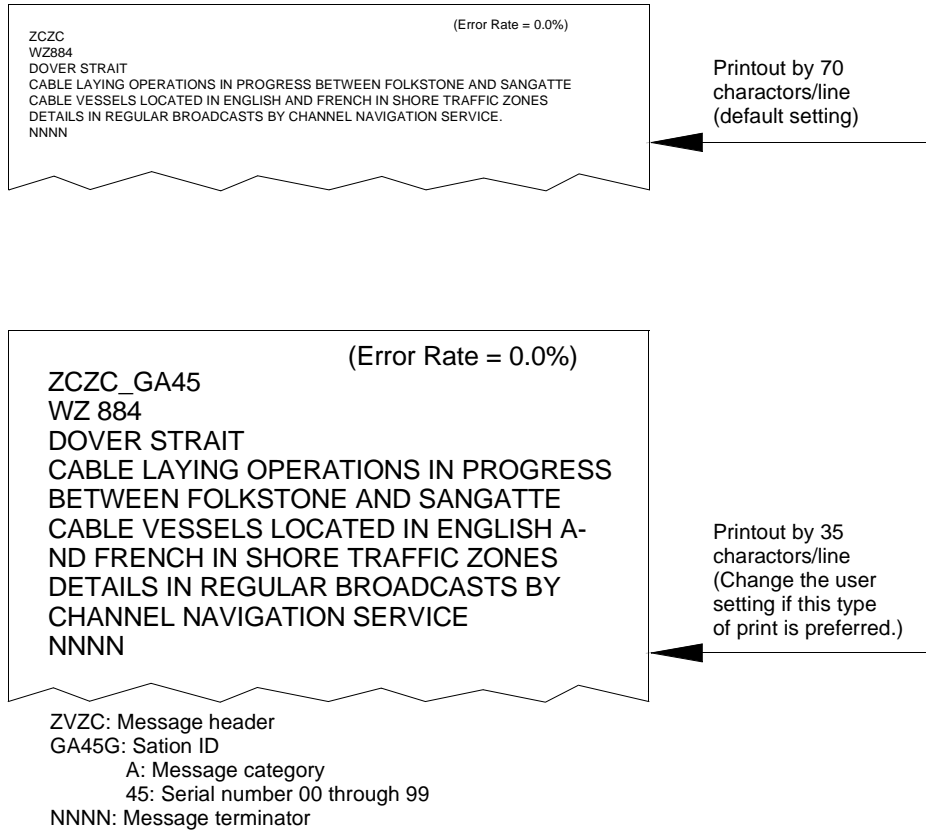

Figure 5. NAVTEX Message Printout
11. An example of a NAVTEX message printout is shown below (figure 5).